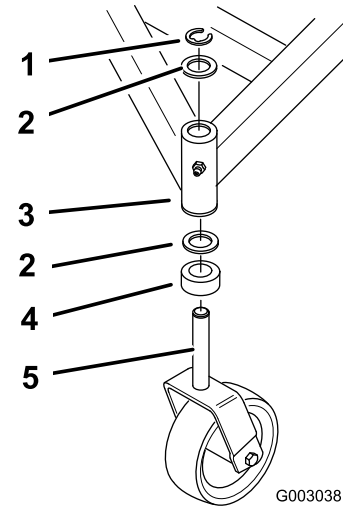

Figure 52
mounting tube to the top to lower the front of the mower (Figure 52).
4. To change the side-to-side leveling, move the thrust washers on one castor wheel fork only. Move the thrust washer(s) from the top of the carrier frame mounting tube to the bottom to raise the corresponding side of the mower. Move the thrust washer(s) from the bottom of the mounting tube to the top to lower the corresponding side of the mower. (Figure 52).